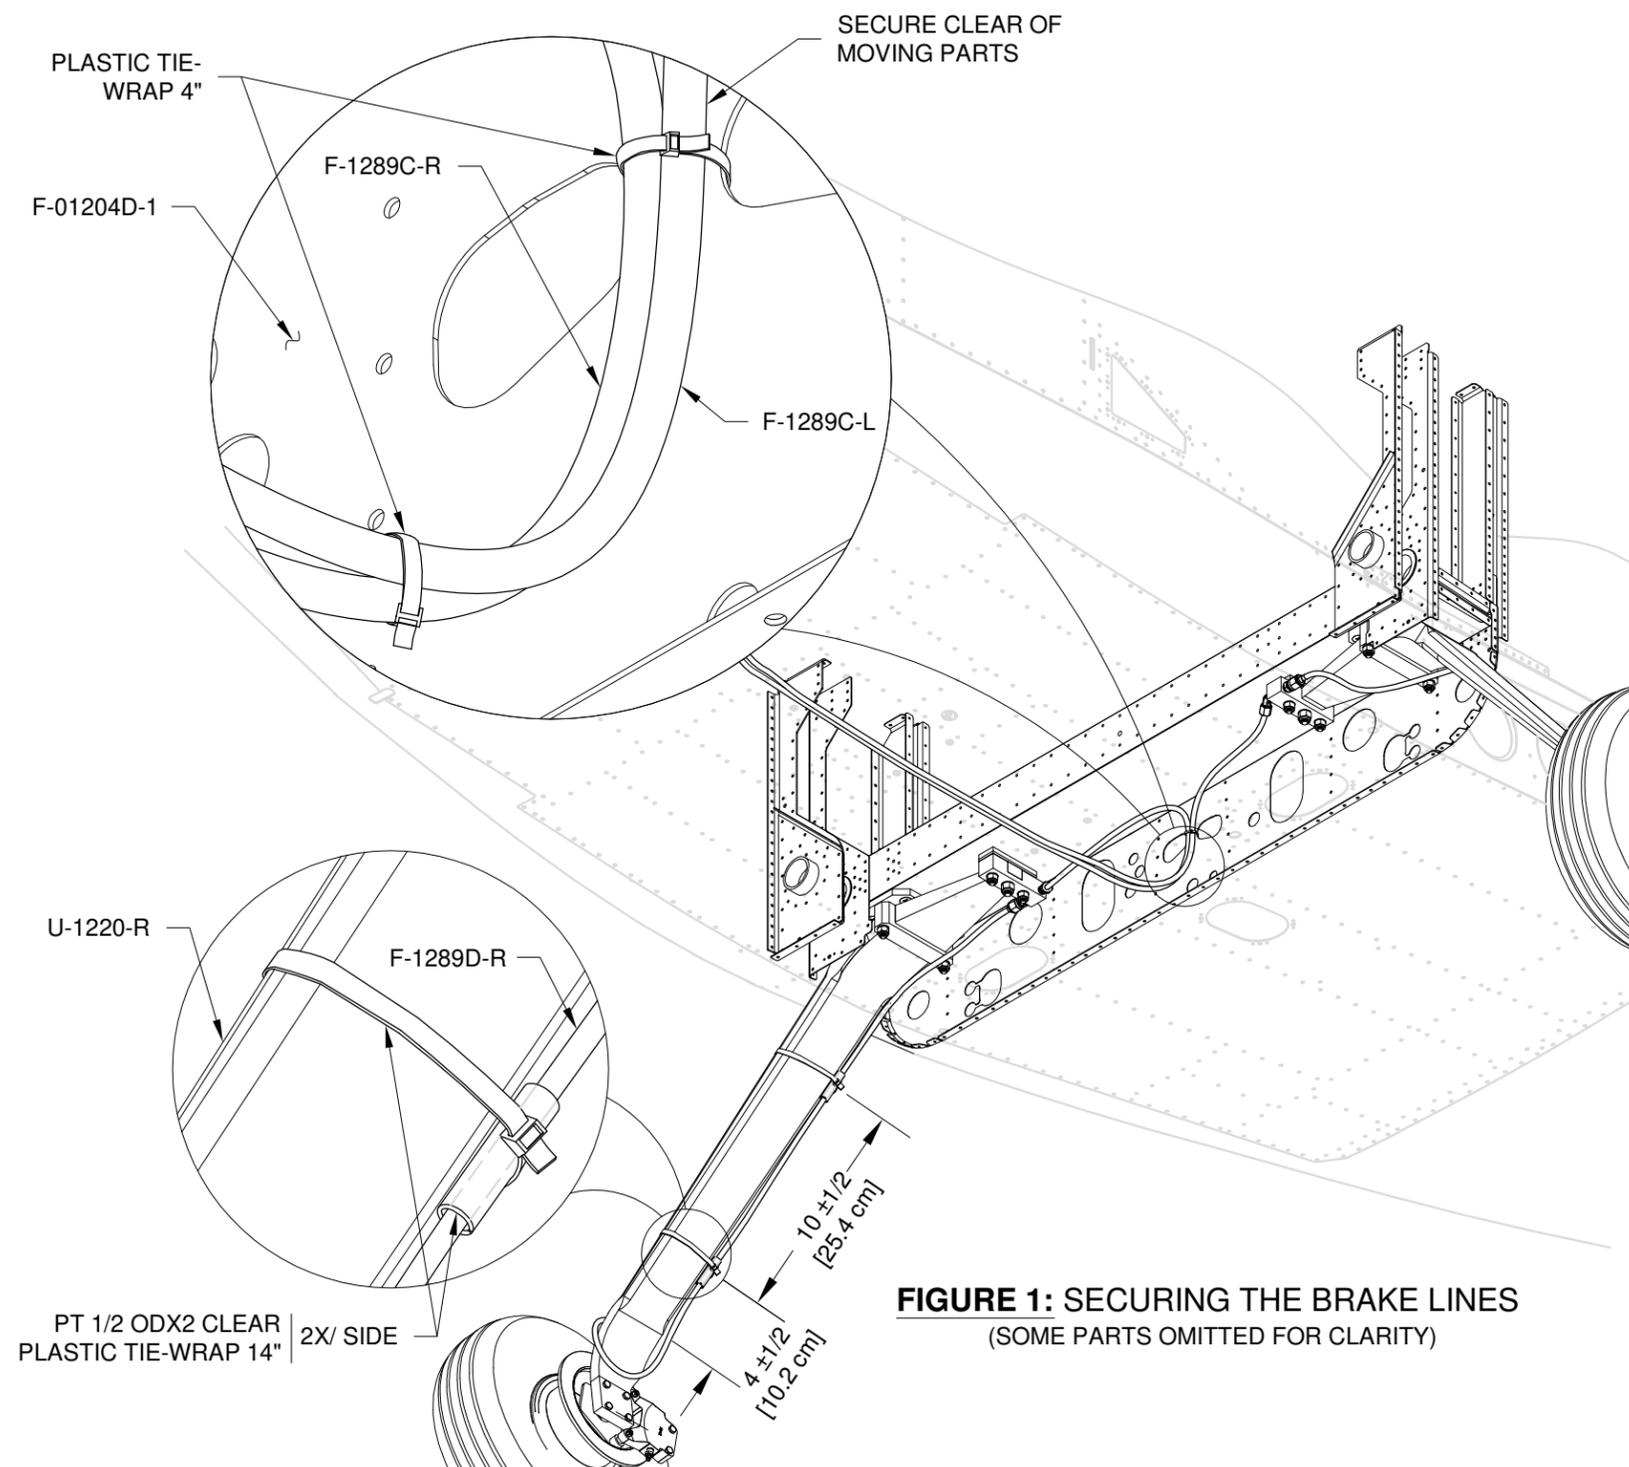

FIGURE 1: SECURING THE BRAKE LINES
Step 2: Make a slit in one side of the provided PT 1/2ODX2 CLEAR tubing. Slip the pieces of tubing around the F-1289D-L and F-1289D-R and secure the tubing pieces and caliper brake lines with the provided tie-wraps as shown in Figure 1.